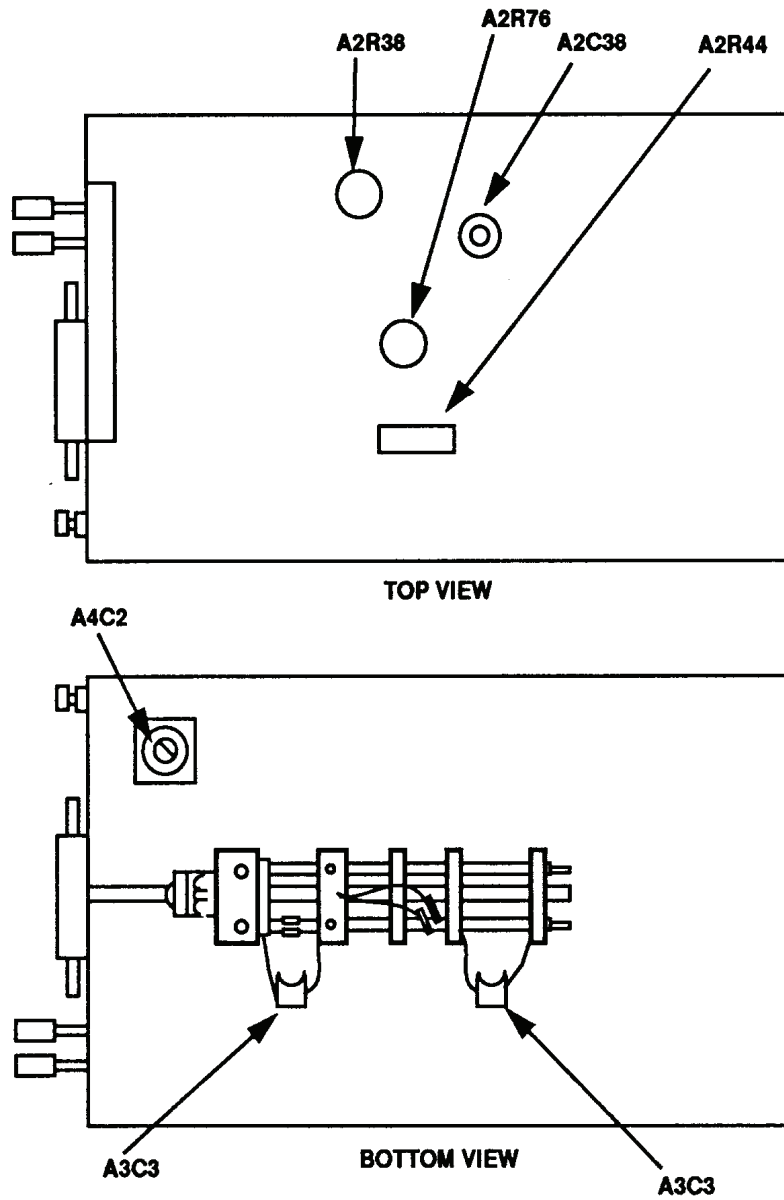

Figure 1. ME-30F/U - adjustment locations.
- (1) Connect calibrator **OUTPUT** terminal to TI **INPUT** terminal.
- (2) Set **RANGE** switch to **1 VOLT**.
- (3) Adjust calibrator frequency for 1 kHz and **OUTPUT** for indication of 1 on TI 0 to 1 scale. Calibrator will indicate 0.99 to 1.01 V ac; if not, set calibrator **OUTPUT** to **1 V ac** and adjust A2R38 (fig. 1) for indication of 1 on TI (R).
- (4) Connect ac voltage divider **INPUT** (p/o calibrator) to calibrator **OUTPUT** terminals and ac divider **OUTPUT** to TI **INPUT** terminal.
- (5) Set **RANGE** switch to **.001 VOLTS**.
- (6) Adjust calibrator **OUTPUT** for indication of 1 on TI 0 to 1 scale. Calibrator will indicate 0.99 to 1.01 V ac; if not, set calibrator **OUTPUT** to **1 V ac** and adjust A2R44 (fig. 1) for a 1 indication on TI (R).
- (7) Set TI **RANGE** and calibrator initial **OUTPUT** as indicated in table 3. Adjust calibrator for the TI meter indication specified. Final calibrator **Error** display indication will be within the specified limits.
(1) Connect TI **INPUT** to calibrator **WIDEBAND OUTPUT** and press calibrator **W BND** pushbutton.
(2) Set TI **RANGE** switch to **.01 VOLTS**.
(3) Set calibrator **FREQUENCY** to **1 kHz** and **AMPLITUDE** for an initial 9.0 mV output. Adjust calibrator output **AMPLITUDE** for a TI indication equal to value recorded in table 3 for **.01 VOLTS** (1 kHz) to establish a 1 kHz reference. Press calibrator **NEW REF** pushbutton.
(4) Set calibrator **FREQUENCY** to **10 MHz** and output **AMPLITUDE** for a TI meter indication of 9 mV. Calibrator **Error** will be within ±5.0 percent; if not, adjust calibrator output **AMPLITUDE** for **ERROR = 0%** and adjust A2R76 (fig. 1) for a TI indication of 9 (R).